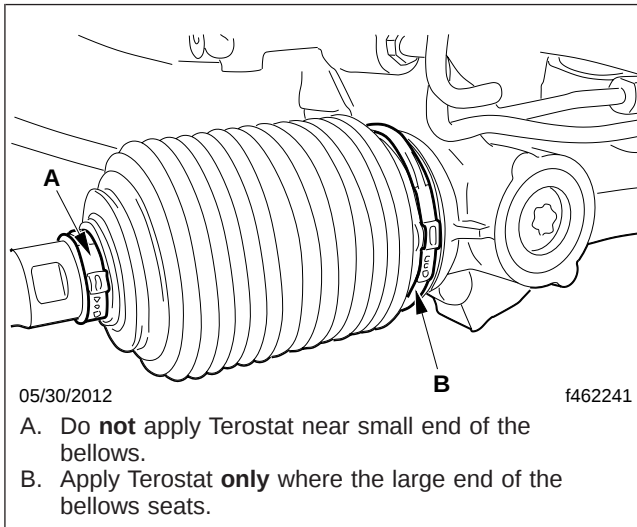
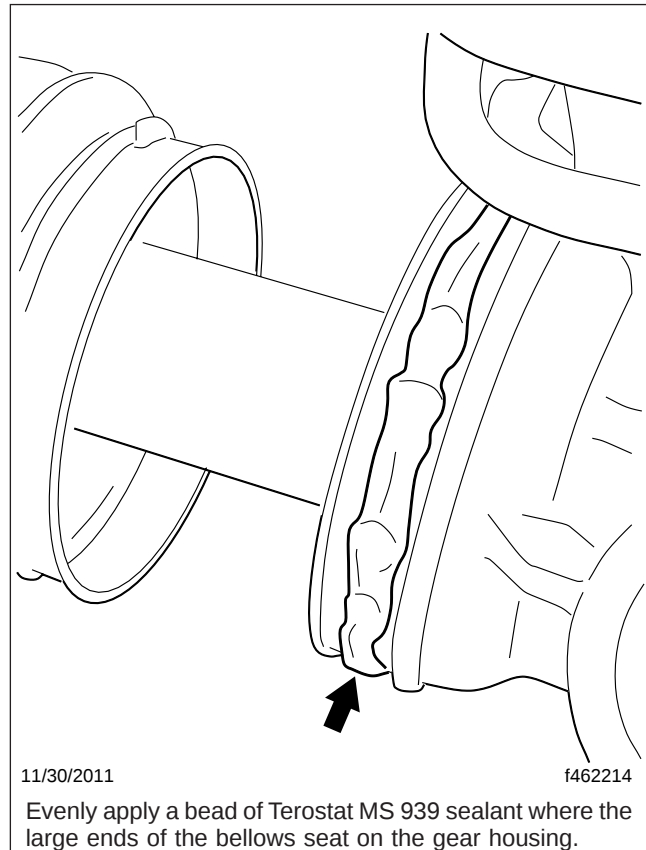

Fig. 1, Apply Terostat To Large End of Bellows
Fig. 2, Terostat MS 939 Sealant Application
10. Evenly apply Terostat MS 939 sealant to the outer diameter of the rack housing where the large ends of the bellows seat on the gear housing. See Fig. 1 and Fig. 2.